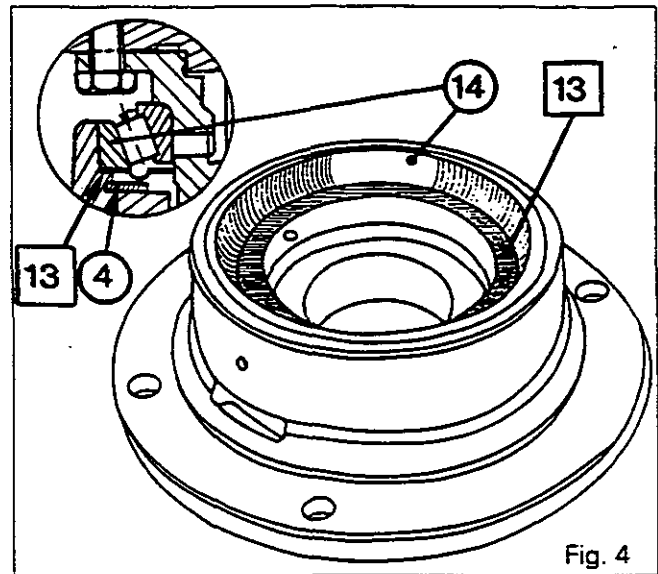
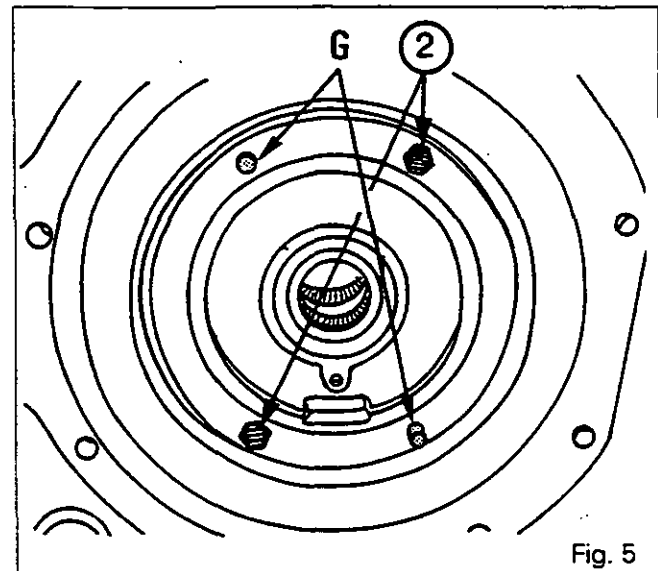

Fig. 4
Fig. 5
14. Fit the circlip (4), the deflector [13] ensuring that it is fitted the right way round and the bearing cup (14) (Fig. 4).
15. Fit the O-ring (1).
16. Screw in two guide studs «G» diagonally opposite on the housing (Fig. 5).
17. Refit the spring (6), the sliding coupler (7), the thrust washer (11) and the carrier (9).
18. Fit and tighten two screws (2) to a torque of 85-130 Nm. Remove the guide studs. Fit and tighten the two other screws to the same torque (Fig. 5).